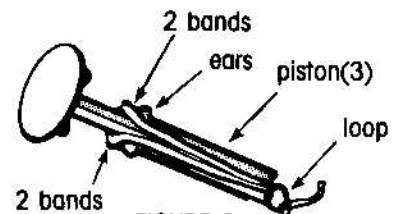

FIGURE 2
Cut 2 feet of string for Umbilical(5). Tie Bands together with an end of the Umbilical using a looped knot to prevent the string from damaging the Bands. Hook 2 Bands over a pair of Piston(3) ears and pull string to seat Bands on bottom of Piston(fig. 2). Drop Umbilical through Base(7), insert Piston and rotate to check for friction from Bands and burrs. If necessary, reseat Bands and remove burrs from side of Piston. When Piston slides and rotates freely, set it aside.